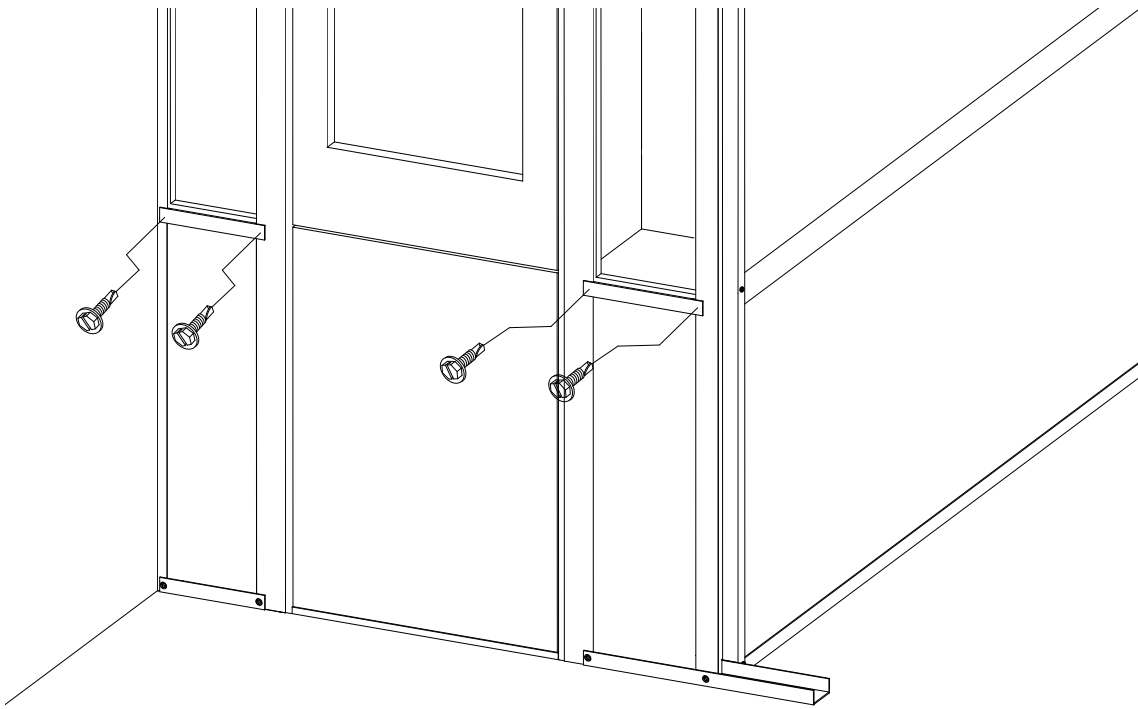

Figure 36
21. Begin fastening the mid-level “A” channels to the vertical channels. The “A” channels should be held level while doing this to ensure that the window sits flush on the channel with no gaps and that the window is vertical. See figure 36.